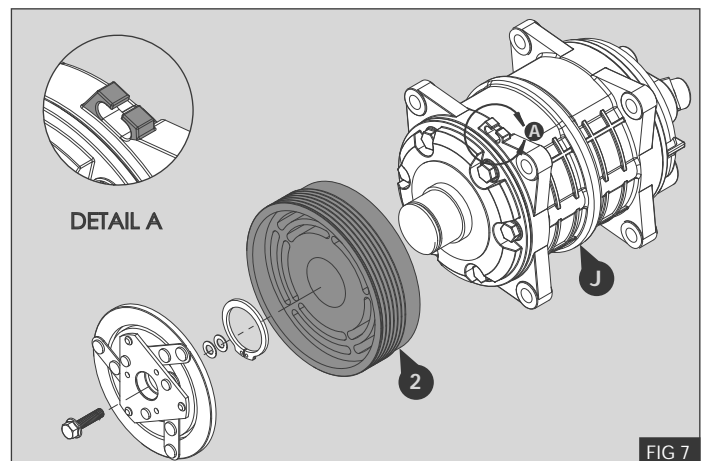

FIG 7
7. Refit the original stretch air conditioning drive belt (A) to the compressor and the crank pulley using a suitable tool (Not supplied) - Fig 7
1. Remove the shaded area, shown in Detail A from the compressor (J) - Fig 7
2. Install the supplied compressor clutch rotor (2) to the compressor (J) - Fig 7